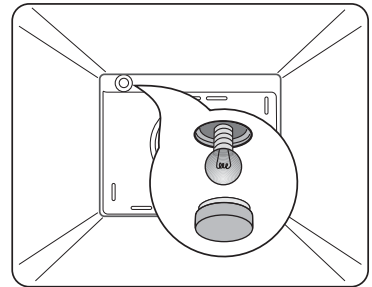

Fig. 2
**Lower cavity:** remove the protective glass cover by turning it anti-clockwise. Unscrew the faulty bulb and discard safely, replace it with the new bulb and refit the cover (fig.2). To refit the side runner frame, follow the steps above in reverse order.